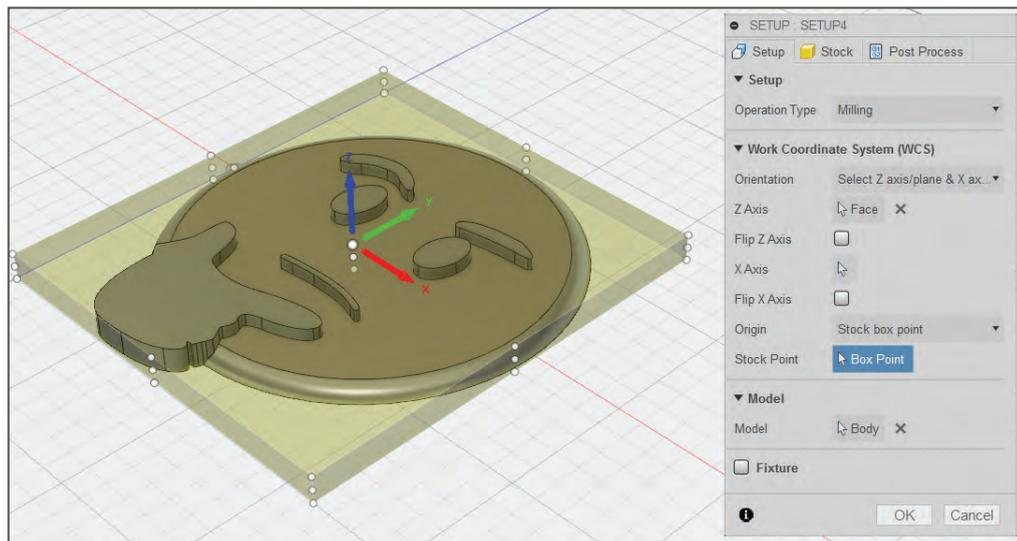

FIGURE 13-22: Use the Box Point button to relocate the triad.
- ▶ **Orientation:** Choose Select Z Axis/Plane & X Axis (Figure 13-21). Click the face of the model workpiece. The z arrow will orient straight up (if it points down, click the Flip Z Axis box). The green axis should point to the back of the machine, and the red axis should point to the right. By default, the triad is in the center and on top of the stock, but you can move it (Figure 13-22). Click the blue Box Point button to make circles appear on the workpiece. Then click any one of the circles to move the triad there.